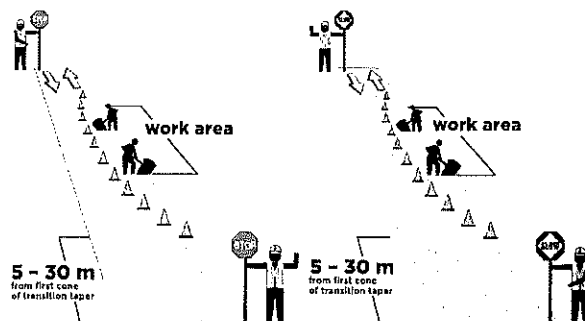

Figure 29-3: Typical Arrangement on a Two-Lane Roadway
- Stand the correct distance from the work area. (Refer to Table 29-1 below and Figure 29-3.)